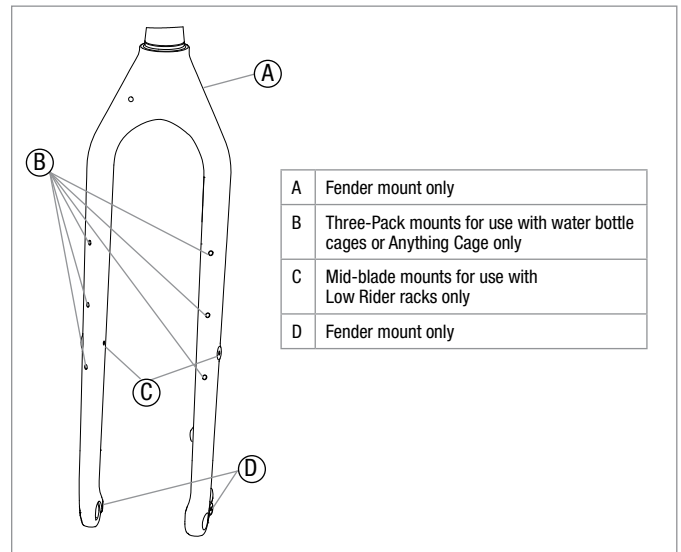

Figure 13
Ensure your fork is rack-compatible. See Figure 13 for approved rack mounting locations on the fork. Follow the rack manufacturer's instructions for installation. Be sure to use all hardware that came with the rack for installation.
**▲ WARNING:** Do not mount racks to any other fork mounts than the those pictured in Figure 13. Failure to properly install a rack can lead to a crash and cause serious injury.